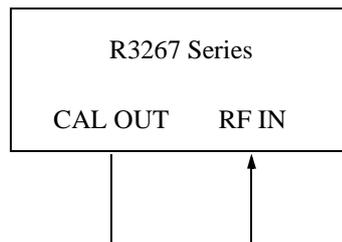

Figure 6-6 Setup of Frequency Deviation Accuracy Measurement for DECT
1. Connect equipment as shown in Figure 6-6.